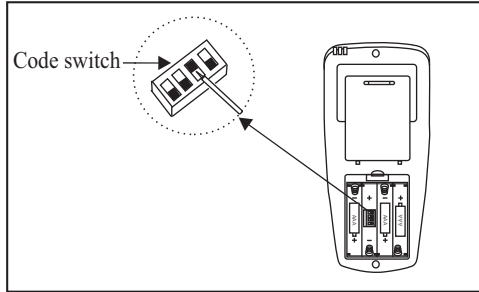

Figure 18
2. The transmitter frequency selector is located in the battery compartment as show in Fig. 18. Each frequency selector has 4 switches, you may use any number of possible combinations but you must set each switch in the transmitter to match the same switch in the receiver.